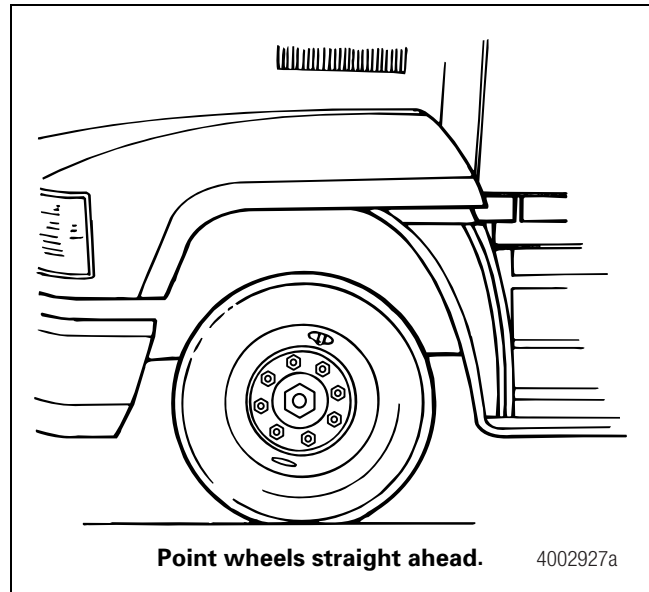

Figure 3.2
1. Park the vehicle on a level surface with the wheels STRAIGHT. Block the wheels to prevent the vehicle from moving. Set the parking brake. Figure 3.2.